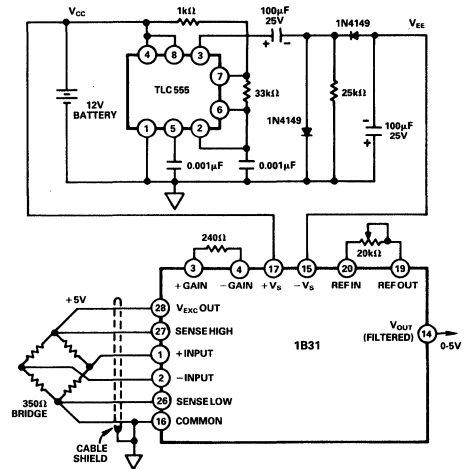

Figure 18. Negative Supply Generation for 1B31
**Mobile Transducer Application:** The small size and reliability of the 1B31 make it an ideal choice for mobile applications. Since the 1B31 requires a negative supply, one possible solution for its generation is shown in Figure 18. The positive voltage of a +12V battery is used to drive a CMOS TLC555 oscillator with a typical supply current of 360μA. The output is a square wave that is rectified by the diodes and filtered to provide a -9V supply. Excitation voltage should be equal to or less than +9V for adequate headroom for the 1B31 voltage regulator.